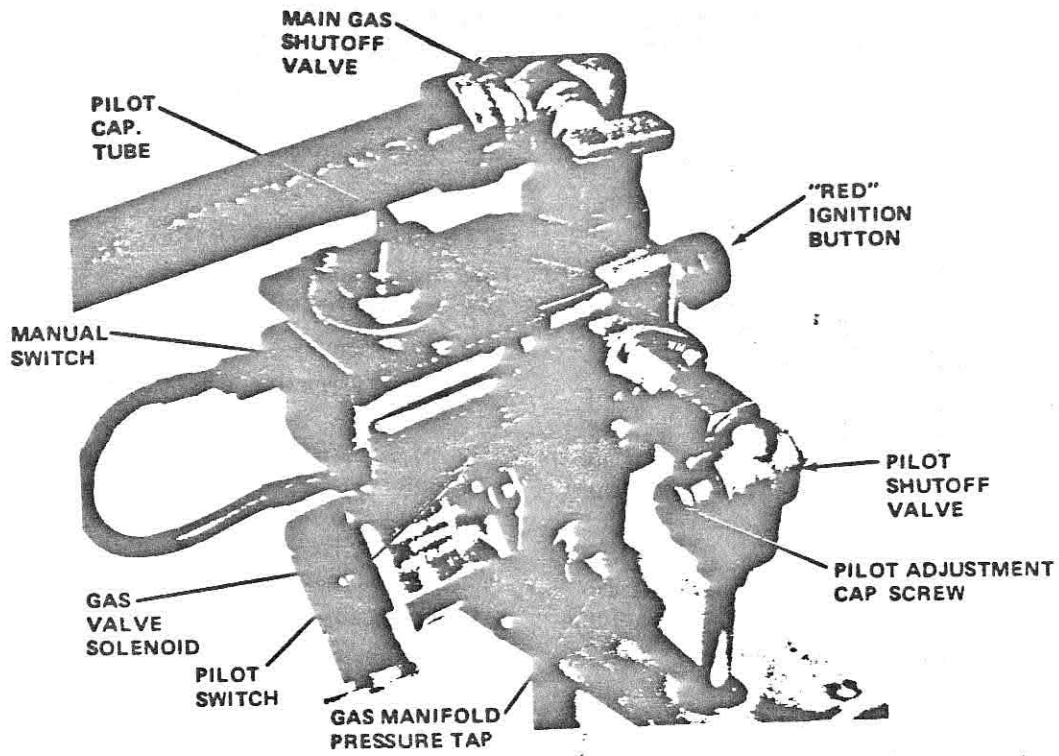

Figure 18a
3. Turn manual gas valve to "OFF" position (Figure 18a).
7. Depress RED button (Figure 18a) on right side of control body as far as possible. (Glow coil will be visible through observation window).
8. Continue to "hold in" the RED button for one (1) minute after pilot flame is established or until pilot flame remains lighted after RED button is released. To adjust pilot flame, remove the cap screw from the center of the pilot shut off valve, and turn the underlying screw counter-clockwise for higher flame or clockwise for lower flame.
The manual gas valve serves to shut off gas supply to the main burner, control valve, and pilot. (Figure 18a).
When the RED button on the side of the gas control valve (Figure 18a) is depressed, the manual switch in the gas control valve is switched to the N.O. (normally open) contacts. This permits current to flow from C (common) terminal through N.O. (normally
To adjust the pilot, remove cap screw from the center of the pilot shut-off valve. Rotate the underlying screw counter-clockwise for more flame or clockwise for less flame. (Figure 18a)